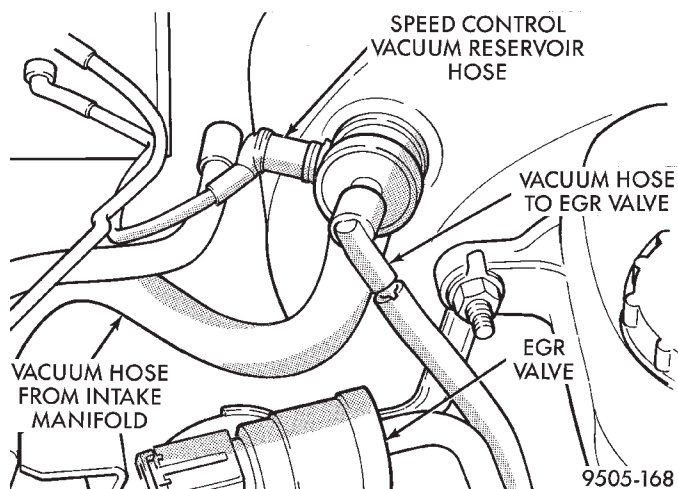

**Fig. 93 Vacuum Hose Attachment To Check Valve**
(6) Remove the vacuum hoses (Fig. 93) from the check valve located on the power brake vacuum booster.
(11) Connect all previously removed vacuum hoses onto the power brake vacuum booster check valve (Fig. 93).